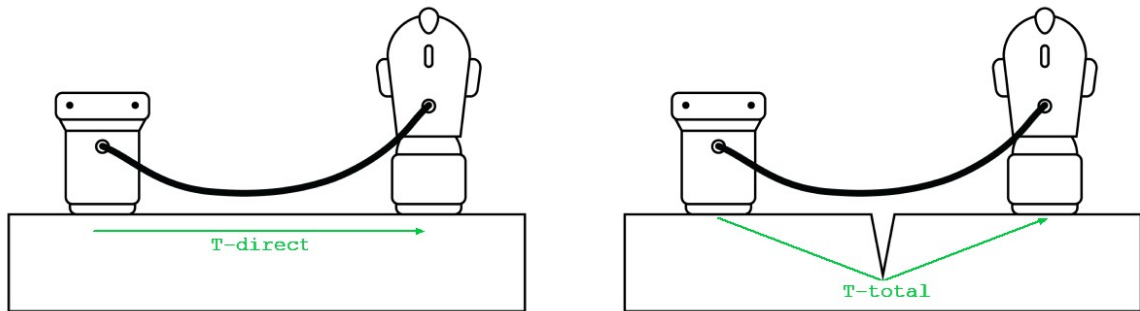

Figure 17: Direct and total sound propagation times
The A1410 PULSAR detects the arrival time of the transmitted pulse analyzing some waveform events. The first event is waveform's first change from zero to minus values, see ❶ on Figure 17, also called the inflection point. The second event is the waveform's rise from minus values to zero forming a peak ❷, also called first negative peak.